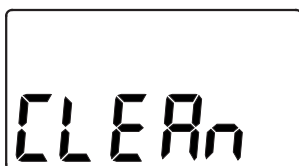

FIG. 17
- **Light flashing, with "CLEAn" flashing in the display** (See Fig. 17) - Four months have elapsed on the system's timer since start up or the last reset.